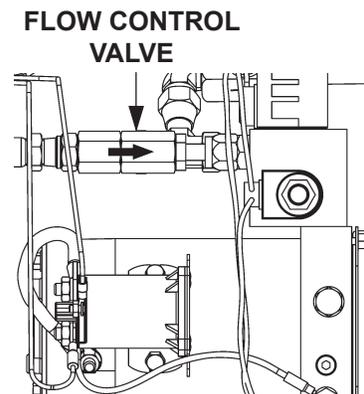

FIG. 52-3
3. Check and clean flow control valve (FIG. 52-3). When installing flow control valve, make sure arrow on valve is oriented as shown in FIG. 52-3.